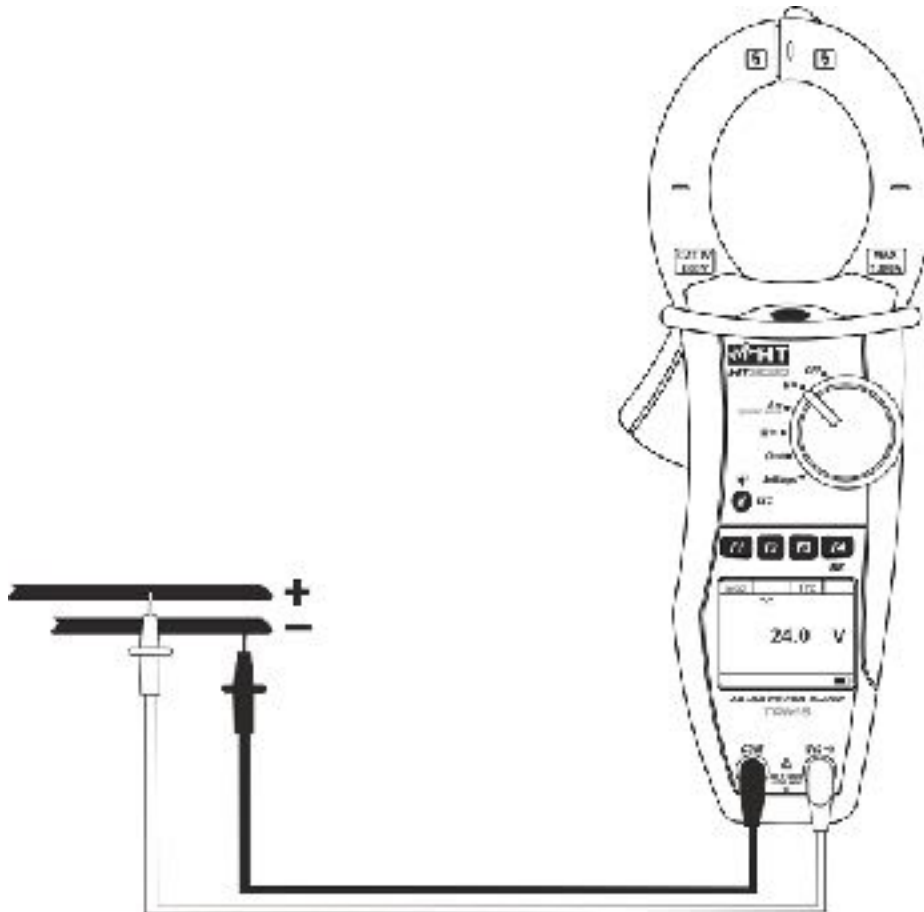

Fig. 5: DC Voltage measurement
4. Connect red cable to input lead **VΩ $\cdot$ )** and black cable to input lead **COM** then position the leads at the desired points of the circuit under test (see Fig. 5)